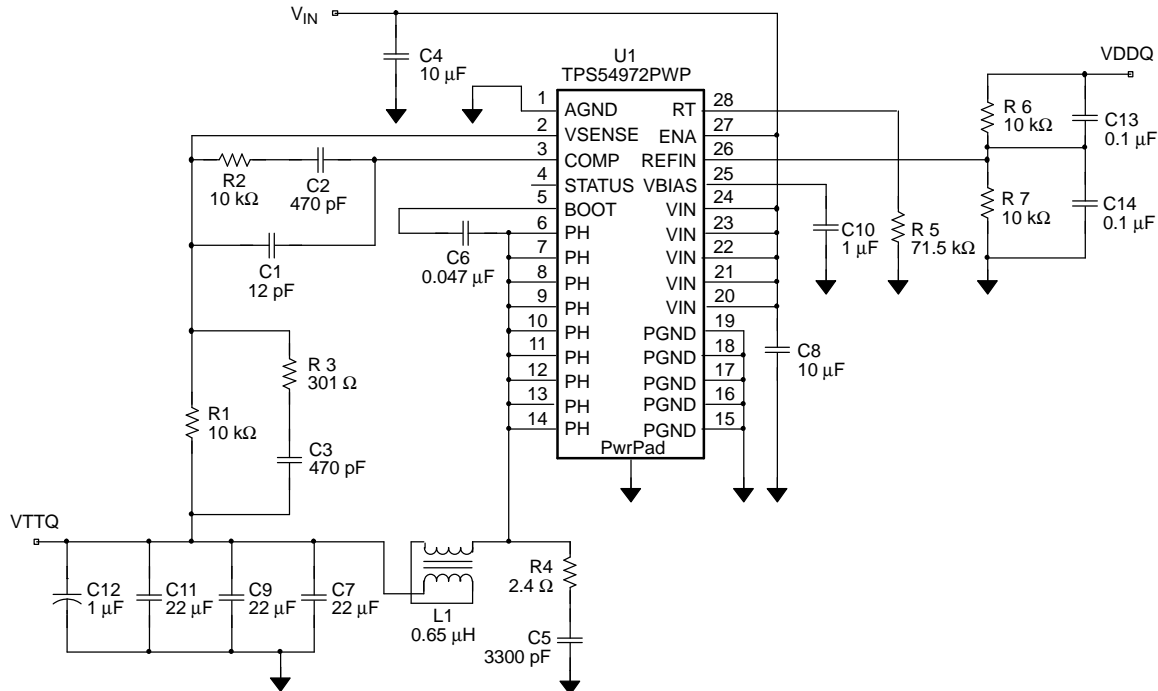

Figure 8. Application Circuit
(5) Maximum power dissipation may be limited by overcurrent protection.
(6) Specified by design
(7) Static resistive loads only
(8) Specified by the circuit used in Figure 8
Figure 8 shows the schematic diagram for a typical TPS54972 application. The TPS54972 (U1) can provide up to 9 A of output current at a nominal output voltage of one half of $V_{(DDQ)}$ (typically 1.25 V). For proper operation, the PowerPAD underneath the integrated circuit TPS54972 is soldered directly to the printed-circuit board.